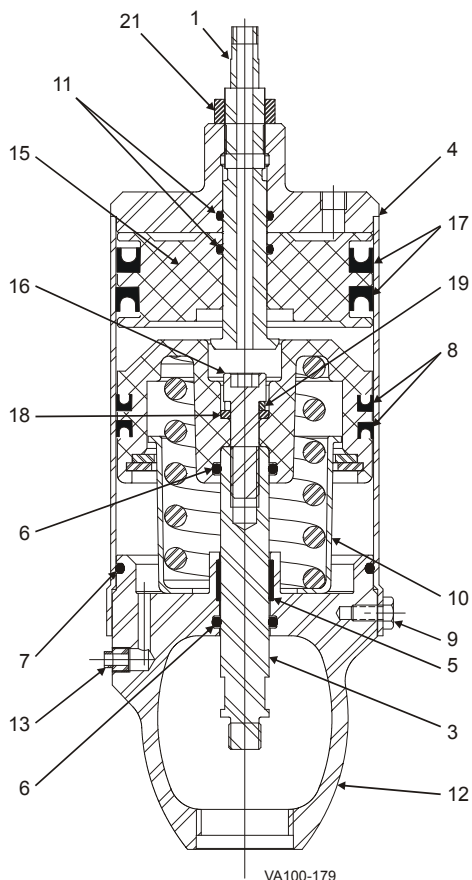

Figure 34: 4" Air-to-Lower 3-Position Actuator
1. Inspect the lower piston U-cup seal (Figure 34, item 8).
2. Remove the worn U-cup seal. Do not score or nick grooves in the piston (item 10).
5. Inspect the stem o-ring seal (item 6).
9. Inspect and replace the PTFE guide bearing (item 5) on the piston as needed.
10. Connect the piston and spring assembly to the stem (item 3) with the bolt (item 16).
11. Assemble the piston and spring assembly to the yoke (item 12).